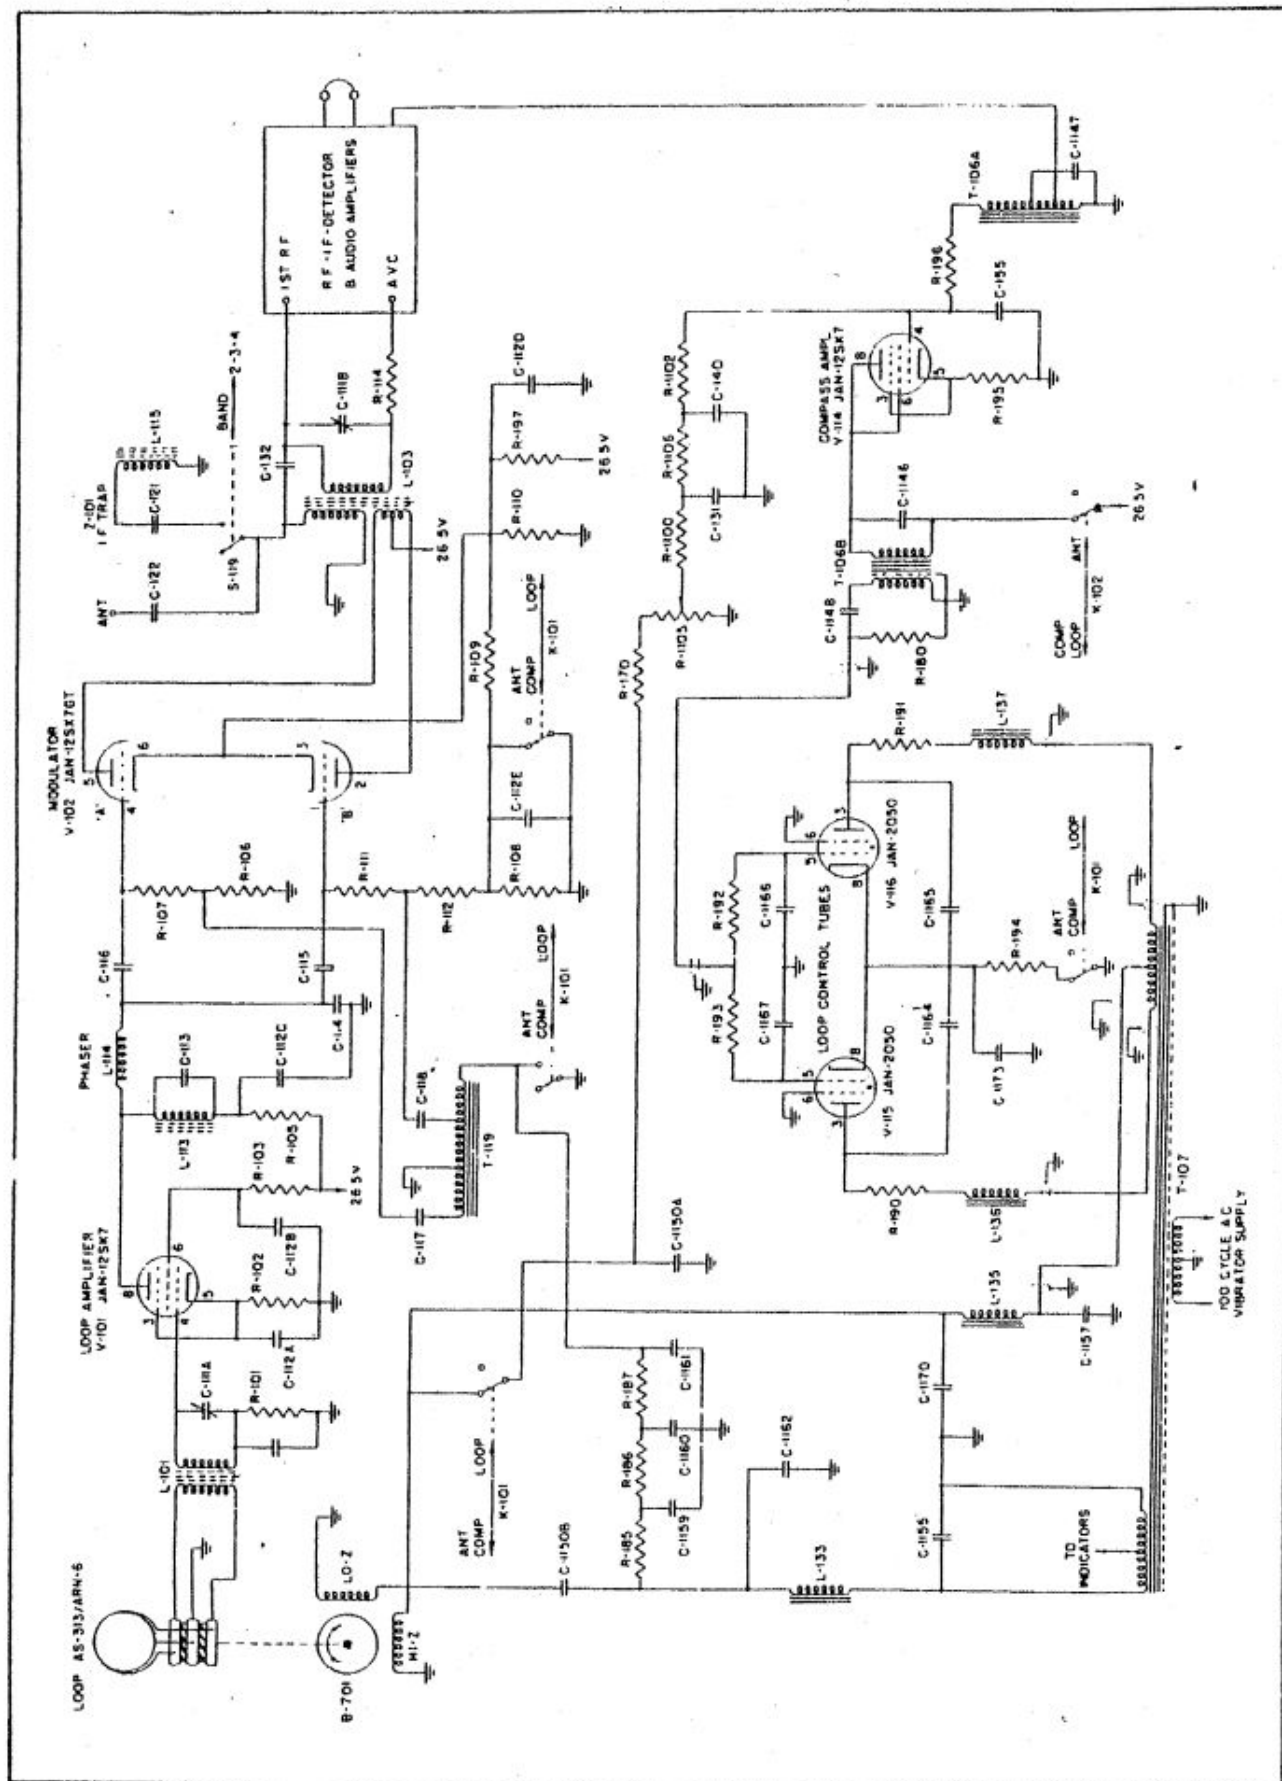

Figure 4-5. Functional Diagram—Compass and Loop Control Circuits of Radio Compass Unit R-101/ARN-6
(3) ANTENNA OPERATION. (See figures 4-5, 4-6, 4-7, and 4-8.)
(4) LOOP OPERATION. (See figures 4-5, 4-6, 4-7, and 4-8.)
a. LOOP CONTROL AND INDICATOR CIRCUITS. (See figures 4-5, 4-6, and 4-9.)
(1) Since the receiver, Radio Compass Unit R-101/ARN-6 or R-101/ARN-6, is primarily designed for the automatic control of the loop, this function is fully described in paragraph 2.b., this section. Figure 4-5 or 4-6 is recommended for study, in preference to the complete schematic, since all bandswitching is omitted and the ordinary RF and IF circuits indicated only as a block.
(2) When using loop reception instead of automatic compass, the thyatron circuit controlling the
(3) In order to provide a suitable control for "hunting" of the loop—that is, small oscillations about its null point when operating as an automatic radio compass—a negative feedback system is provided. Refer again to figure 4-5. The "Hi-Z" winding of B-701 is the winding controlled by the thyatrons. The sig-